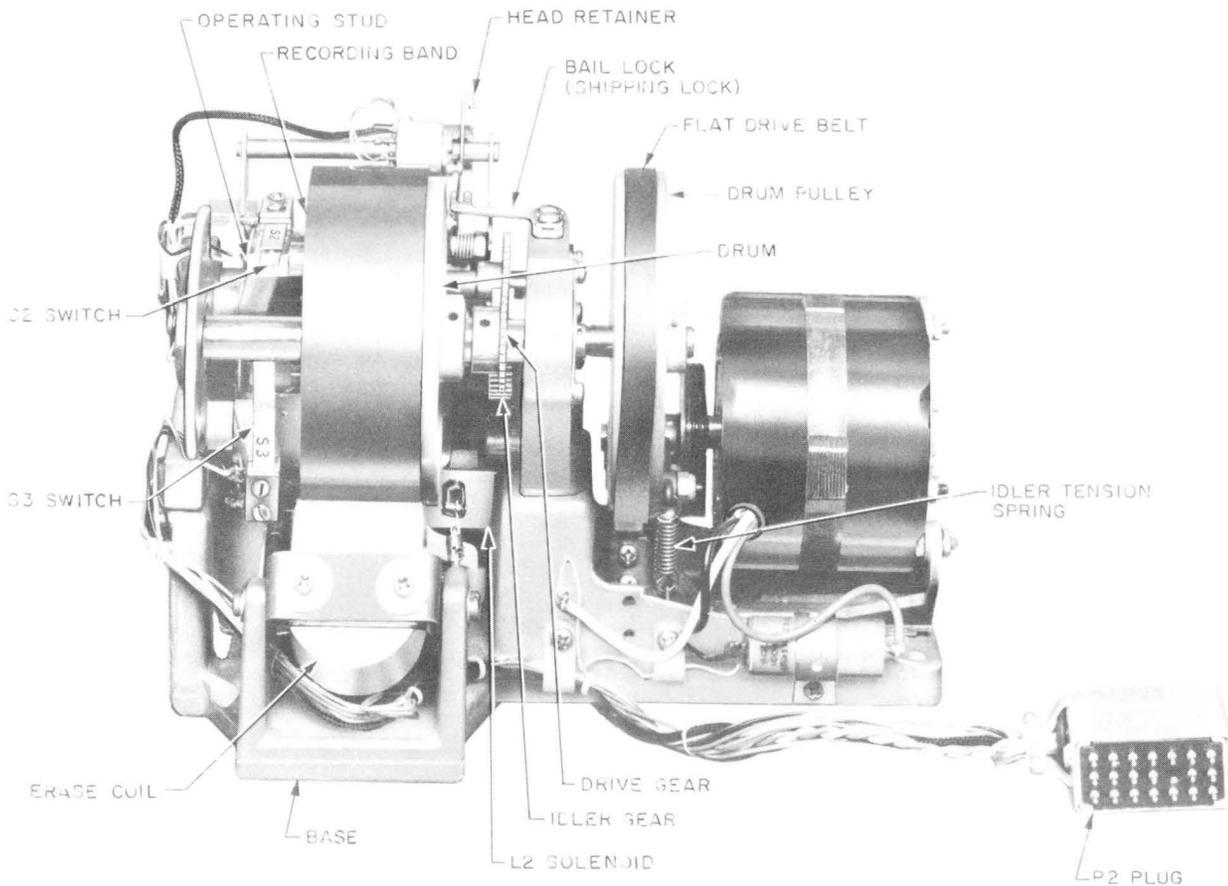

Fig. 3—KS-16765, L3 Recorder—Rear View (Later Type Shown)
- (c) **Flat Drive Belt:** The drive belt (Fig. 3) and drive surface of pulleys shall be free of oil, dirt, or other foreign matter. Gauge by eye.
- (d) **Recording Band:** The recording band shall be cleaned and lubricated every 3 months. The surface of the recording band (Fig. 3) shall be free from dust and foreign material and the entire surface shall have a polished appearance. Gauge by eye.
- (b) In the unoperated position, S2 and S3 switch (Fig. 3) contacts shall have a separation between contacts of